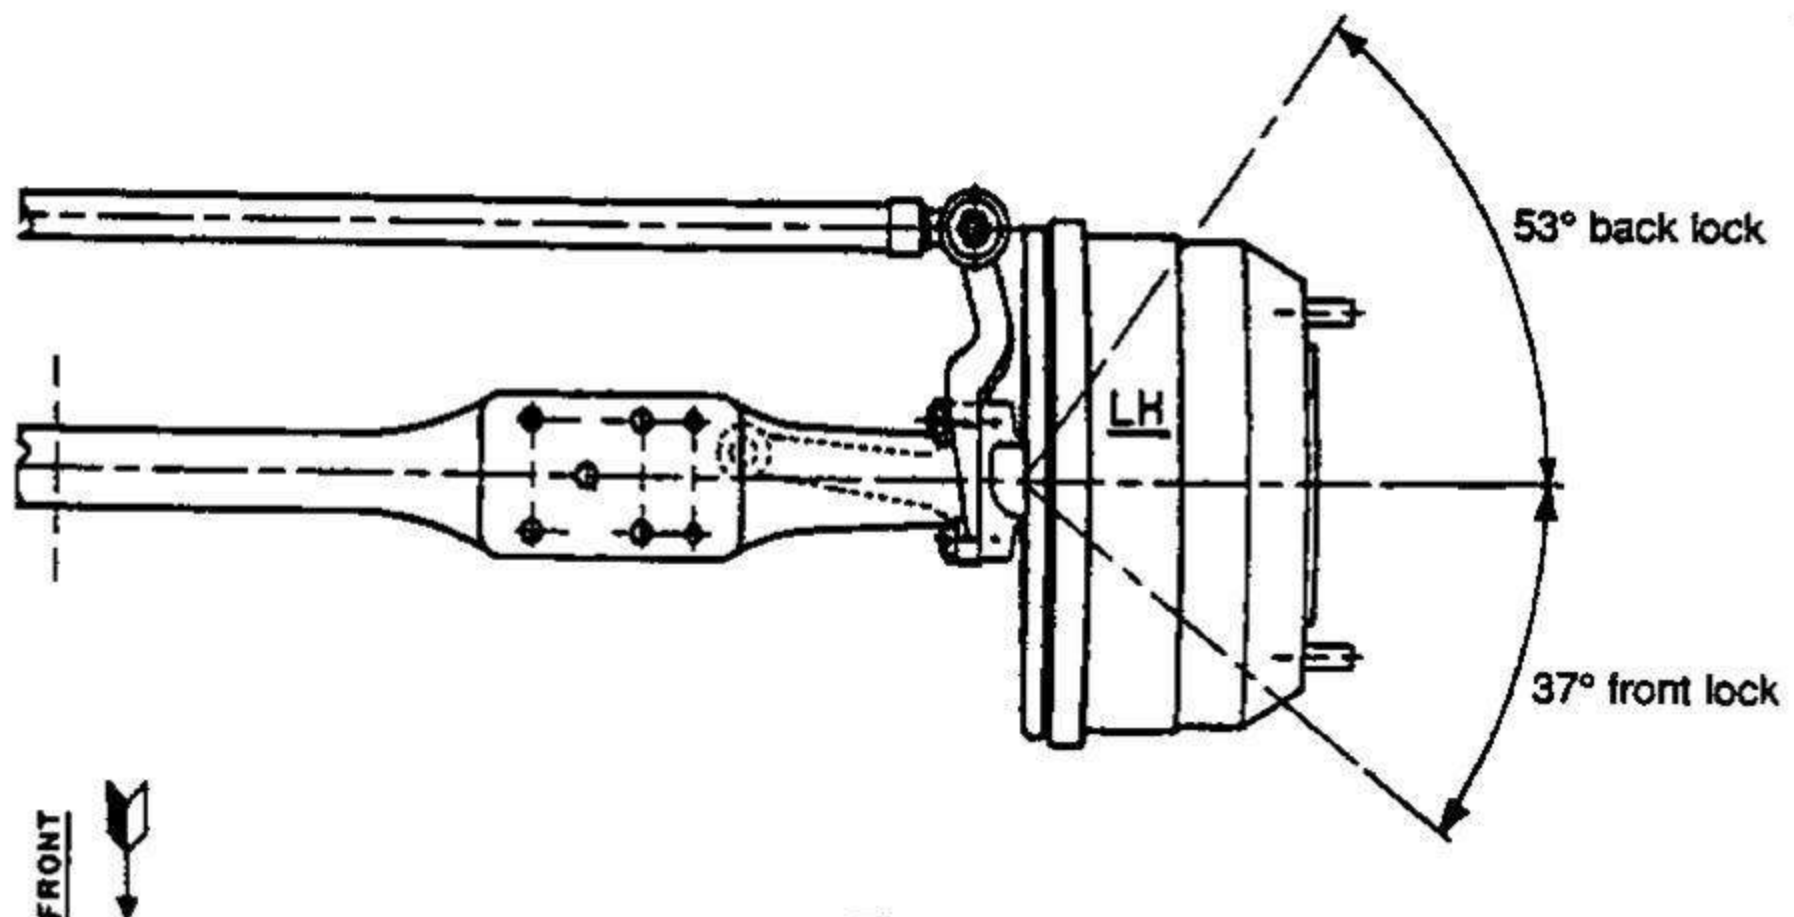

Fig. 8
- d) Fit brake drum (4) and secure with brake drum retaining screw (52).
- e) Fit lockstops with adjusting washers (31 & 33) and adjust to give correct lock angles as shown in fig 8.